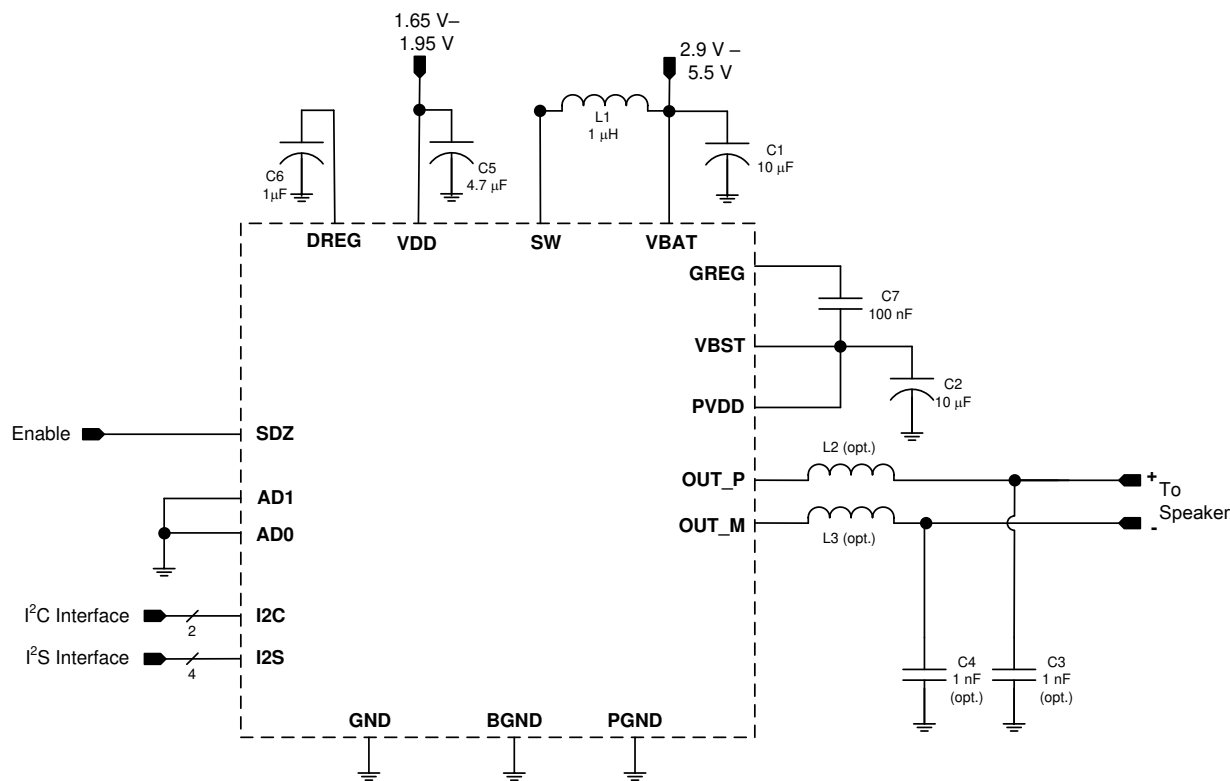

Figure 50. Typical Application - Digital Audio Input
The boost converter requires three passive devices that are labeled L1, C1 and C2 in Figure 50 and whose specifications are provided in Table 272. These specifications are based on the design of the TAS2110 and are necessary to meet the performance targets of the device. In particular, L1 should not be allowed to enter in the current saturation region. The saturation current for L1 should be  $> I_{LIM}$  to deliver Class-D peak power.
The system designer may want to include passive devices on the Class-D output. These passive devices that are labeled L2, L3, C3 and C4 in Figure 50 and their recommended specifications are provided in Table 272. If C3 and C4 are used, L2 and L3 must also be installed, and C3 and C4 must be placed after L2 and L3 respectively to maintain the stability of the output stage.
The boost supply (VBAT) and associated passives need to be able to support the current requirements of the device. By default, the peak current limit of the boost is set to 4 A. Refer to Table 86 for information on changing the current limit. A minimum of a 10  $\mu$ F capacitor is recommended on the boost supply to quickly support changes in required current. Refer to Figure 50 for the schematic.
- Use supply decoupling capacitors as shown in Figure 50 and described in Power Supplies.